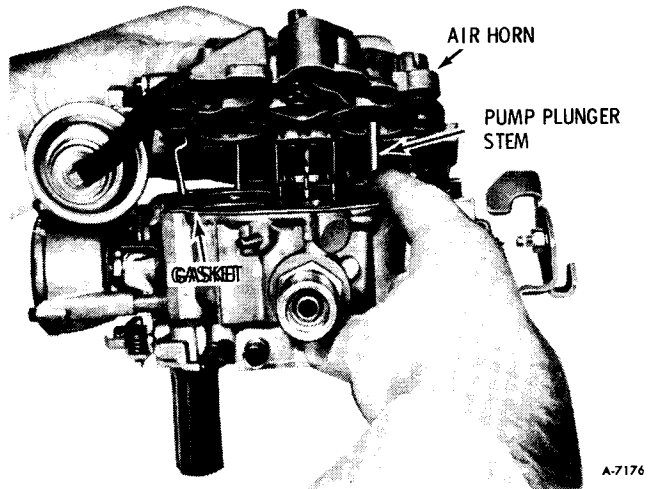

Figure 15—Removing Air Horn
6. Remove air horn from float bowl by lifting straight up. The air horn gasket should remain on the float bowl for removal later (figure 15).